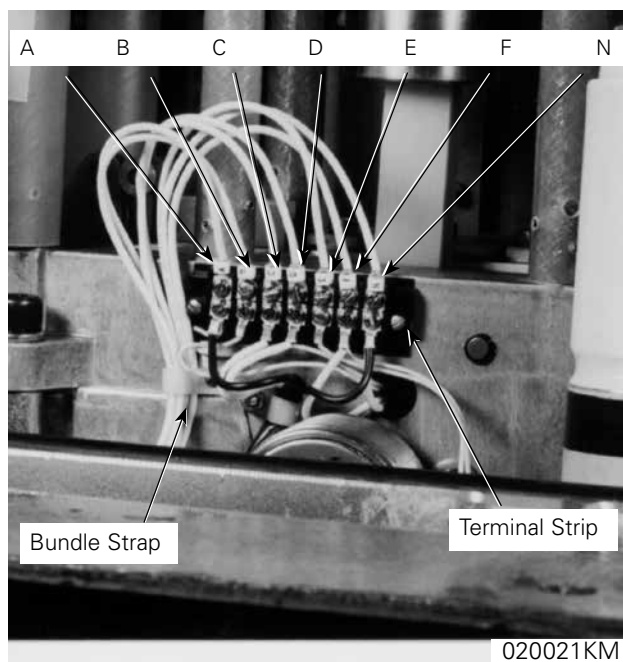

Figure 24. Connections to terminal strip attached to recloser mechanism frame. (Unit is inverted.)
5. If the recloser is equipped with the CT type battery charger power source, remove the screws that secure the 0.2 mfd capacitor to the recloser frame (Figure 24).
- Attach the 0.2 mfd capacitor (if present) to the mechanism frame (Figure 24).